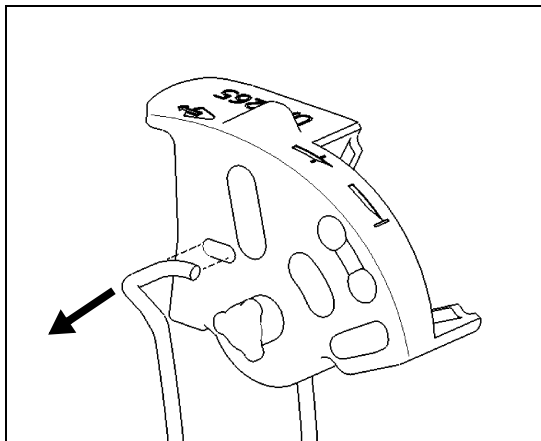

Fig. 13. Removing the wire bracket from needle guide UA1265
5. Hold the needle guide so that the hooked ends are lined up with the oval holes in the side of the needle guide (see Fig. 13.).